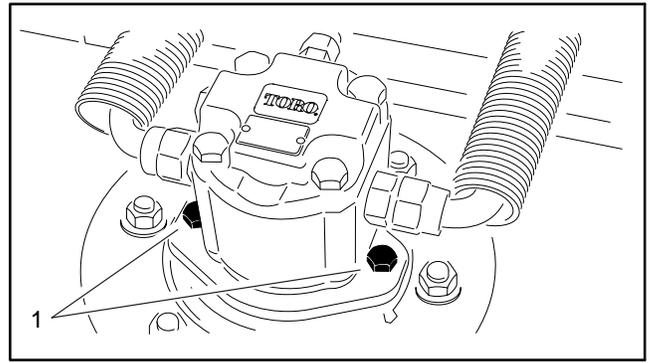

Figure 20
2. Disconnect and remove the hydraulic motor from the deck (Fig. 20). Cover the top of the spindle to prevent contamination.
4. Install the hydraulic motor to the deck (Fig. 20). Make sure that the O-ring is in position and not damaged.